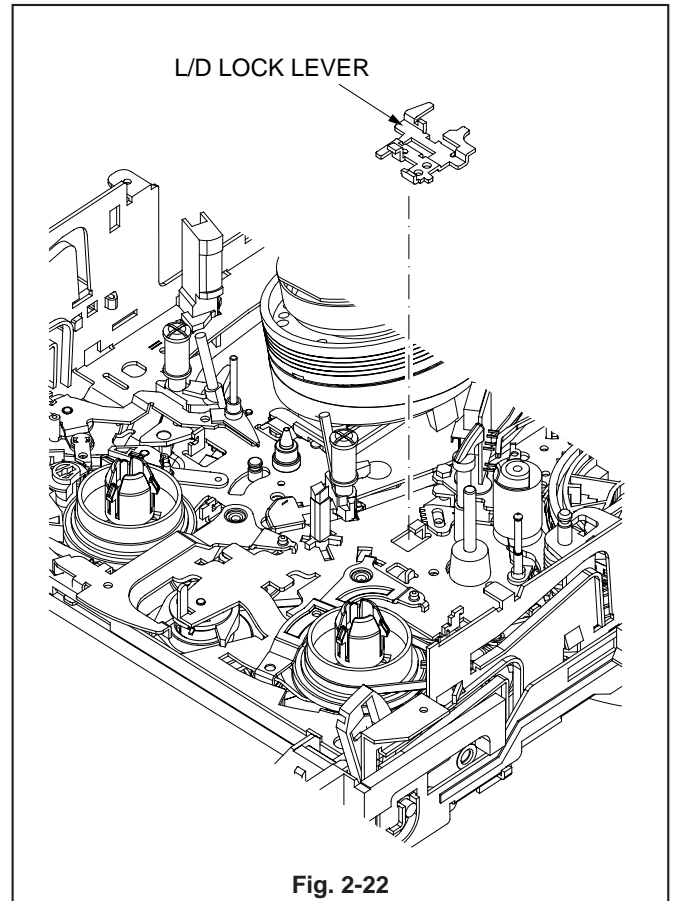

Fig. 2-22
1. Remove the L/D LOCK LEVER shown in Fig. 2-22.
1. Install the L/D LOCK LEVER shown in Fig. 2-22.